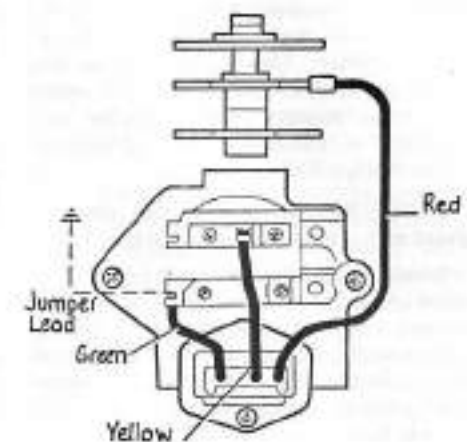

Fig. 80—Schematic view of 8TRD regulator.
**NOTE:** If regulator is a Model 8TRD, it will have a green lead and the regulator can be shorted out by connecting a jumper wire between green lead and alternator frame as shown in Fig. 80. If alternator has a 14TR